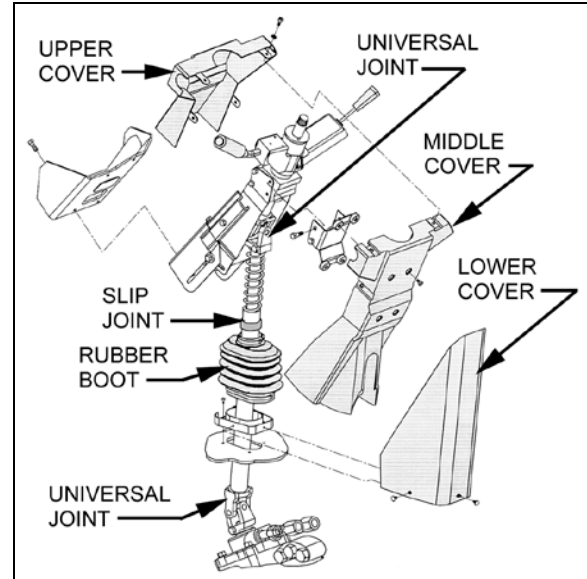

FIGURE 10: STEERING COLUMN COVERS
1. From the front driver's compartment area, remove the three plastic fasteners on steering column lower cover. Remove the lower cover (Fig. 10).
2. Remove the 2 clockspring mounting screws and then remove the clockspring. You will have to disconnect the clockspring harness connector located lower along the steering wheel column. If necessary, remove the steering column covers (Fig. 10).